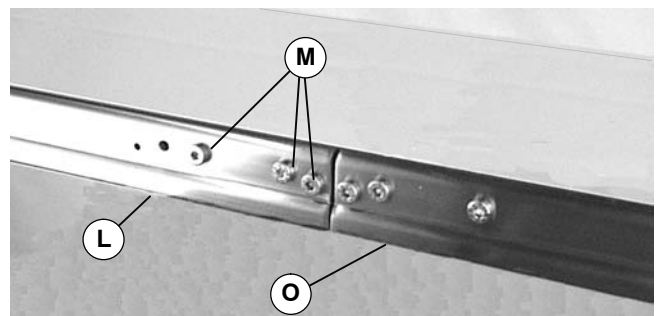

Figure 7
5. Join conveyor sections (L and O of Figure 7). Install screws (M) through frame and into connector bar (N) on both sides. Tighten screws to 60 in-lb (7 Nm).